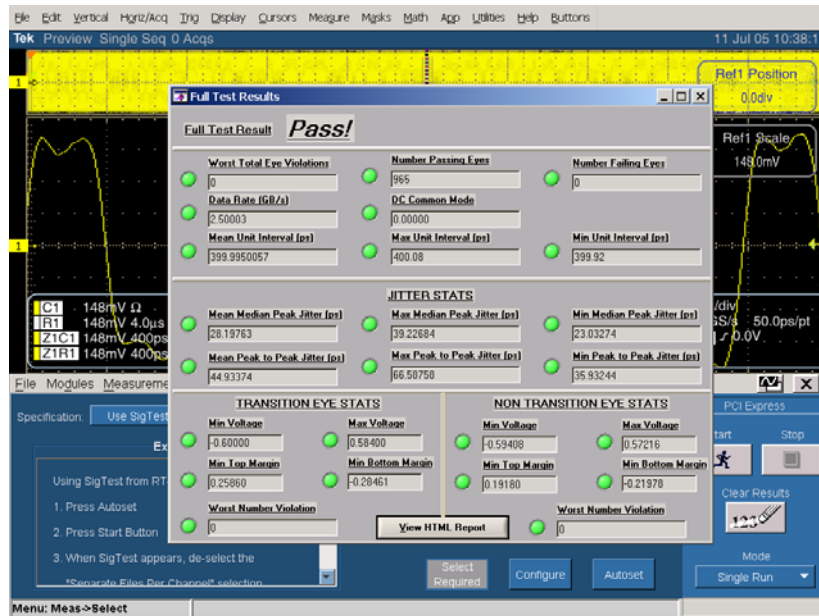

Figure 35: Result of running SigTest on live channel input
- Click **Run** to launch SigTest and automatically import data waveforms into SigTest. Figure 35 shows the result after data is verified and run through SigTest.